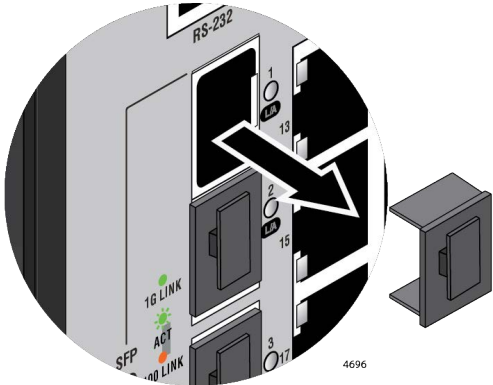

Figure 35. Removing the Dust Plug from an SFP Slot
1. Remove the dust plug from a transceiver slot. Figure 35 on page 93 shows the dust plug removed from slot 1.